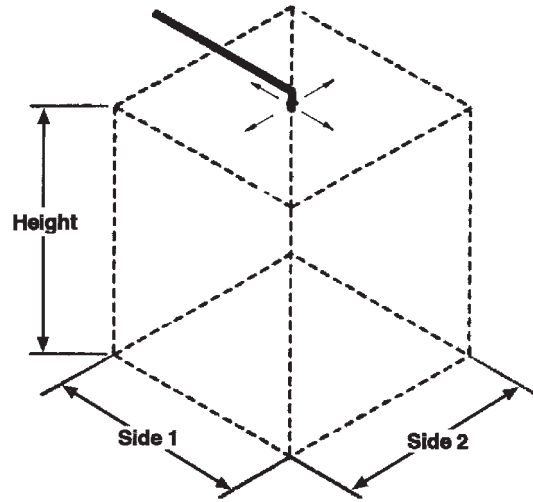

Figure 3-1. Nozzle Location
The nozzle is to be mounted in the center (See Note) of the protected area, with the discharge holes in the nozzle no greater than six (6) inches from the ceiling. For duct protection, the nozzle is to be mounted in the center. See Figure 3-1.